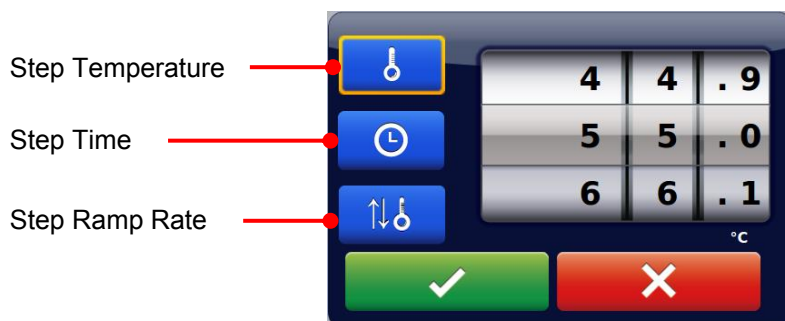

Figure 13. Temperature/Time/Ramp rate setting
- To select the **Step**, tap on the step segment. The selected **Step** will be highlighted and the **Step Temperature, Time and Ramp Rate**  will be displayed. Tap on  and a spinning wheel will pop up as shown in Figure 13, allowing you to modify the **Step Temperature, Step Time, or Step Ramp Rate**.
If a **Stage** contains more than one **Step** segment, the **Stage Cycle Number**  will appear when you tap on the **Stage** header to highlight it. The **Stage Cycle Number** indicates the total number of times the Stage will repeat itself during the running of the protocol. Tap on  and the **Cycles** spinning wheel will pop up as shown in Figure 13 below, allowing you to modify the **Stage Cycle**